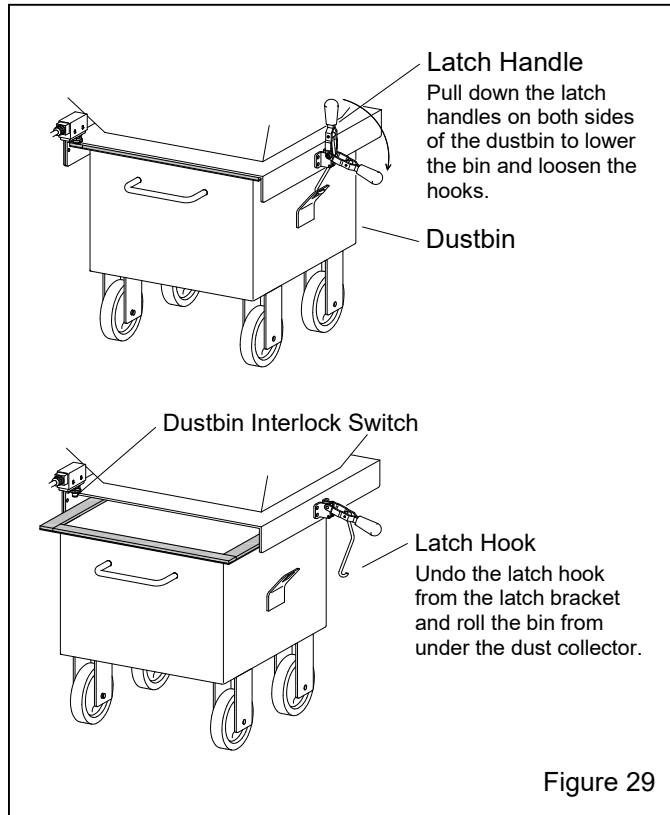

Figure 29
6.2.4 Inspect dustbin – Figure 29
6.2.4.2 Turn off the exhauster and unlatch the bin from the dust collector, as shown in Figure 29.